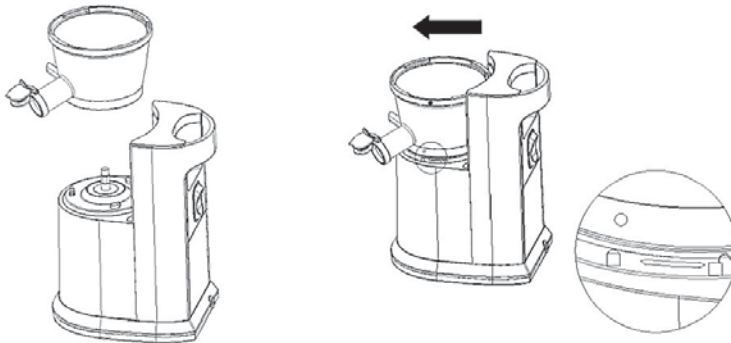

Fig. 1
I. Assemble the bowl to the base. (Figure 1)